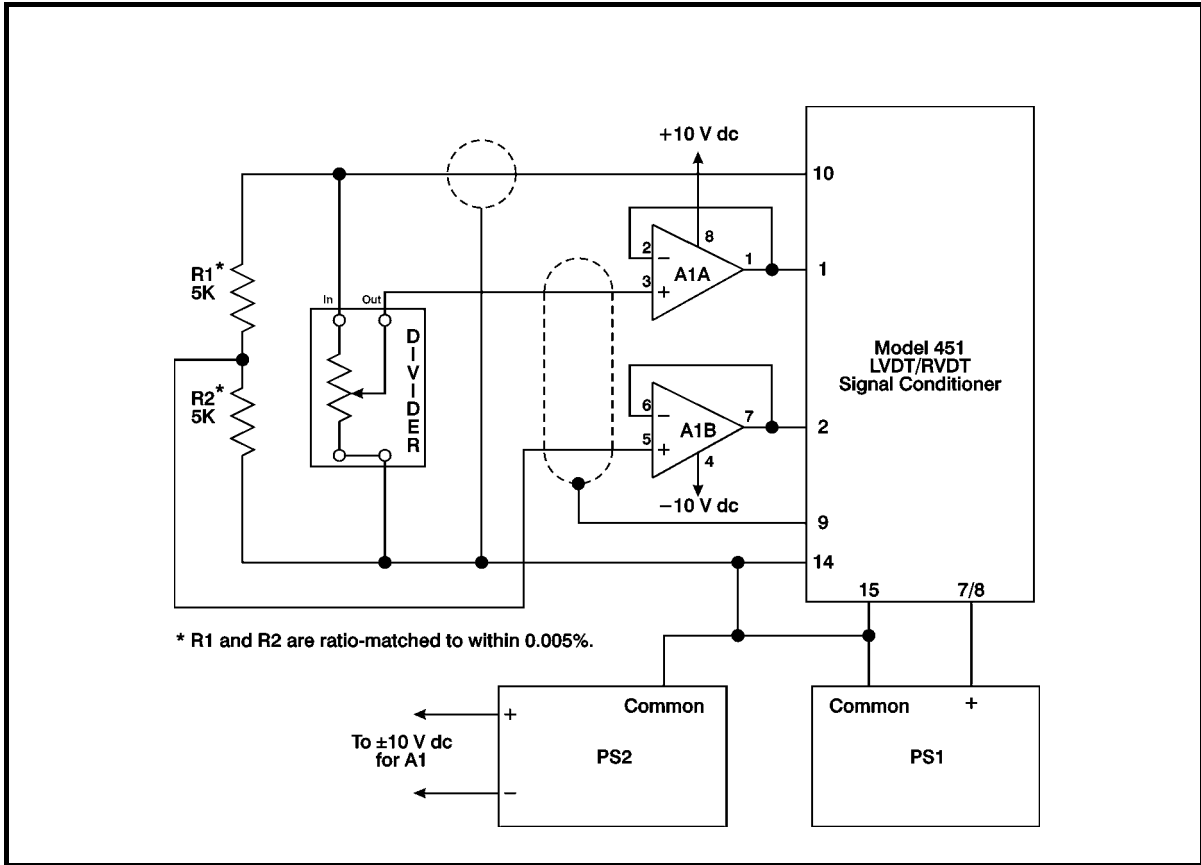

Figure 6-2 Input Alignment
1. Connect the Model 451 and dc voltmeter as is shown in Figure 6-2. Make sure to provide shielding where indicated. Set PS1 to any voltage between 10.5 and 32 V dc and PS2 to 10 V dc.